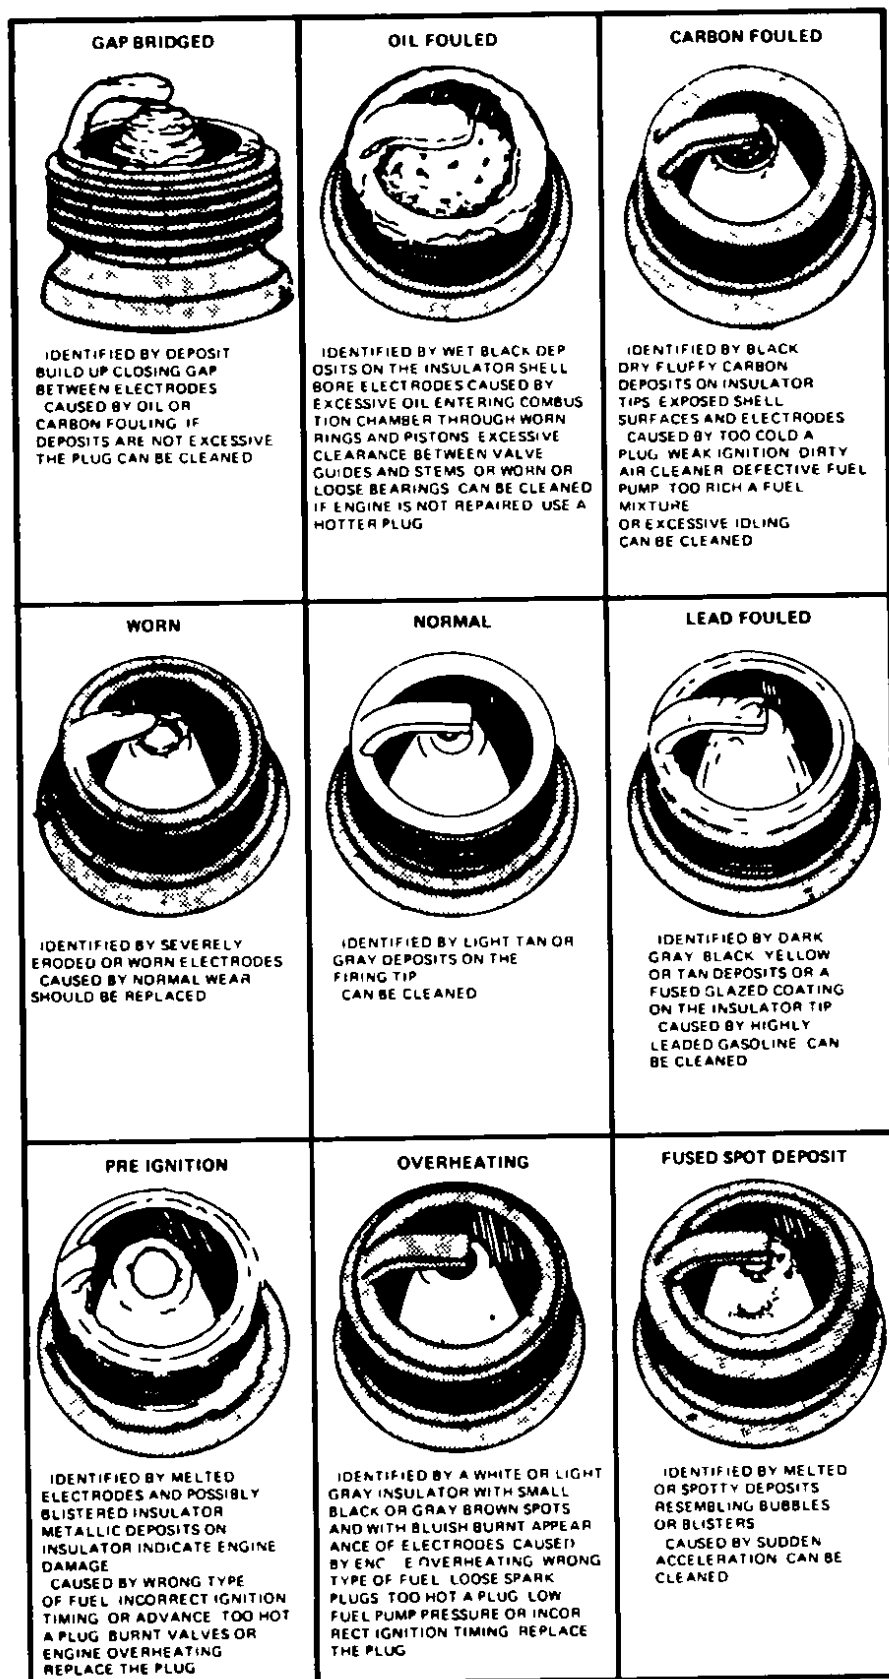

Fig 25 Spark plug condition chart
- 5 Check the condition of the old spark plugs by comparing them to the chart, Fig 25